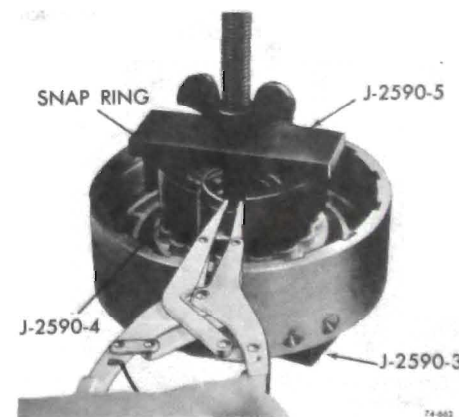

Figure 76-662
6. Compress springs using Clutch Compressor Tool J-2590, and install snap ring. See Figure 76-662.